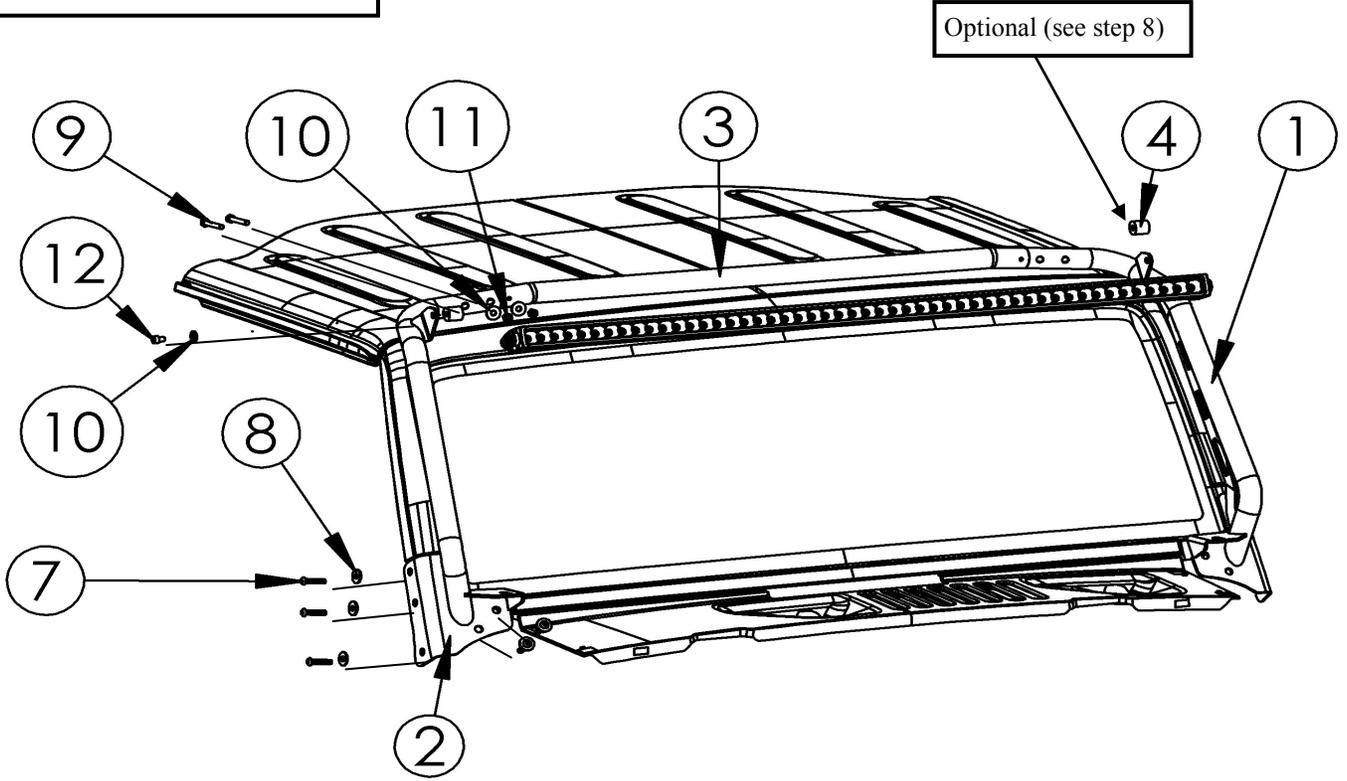
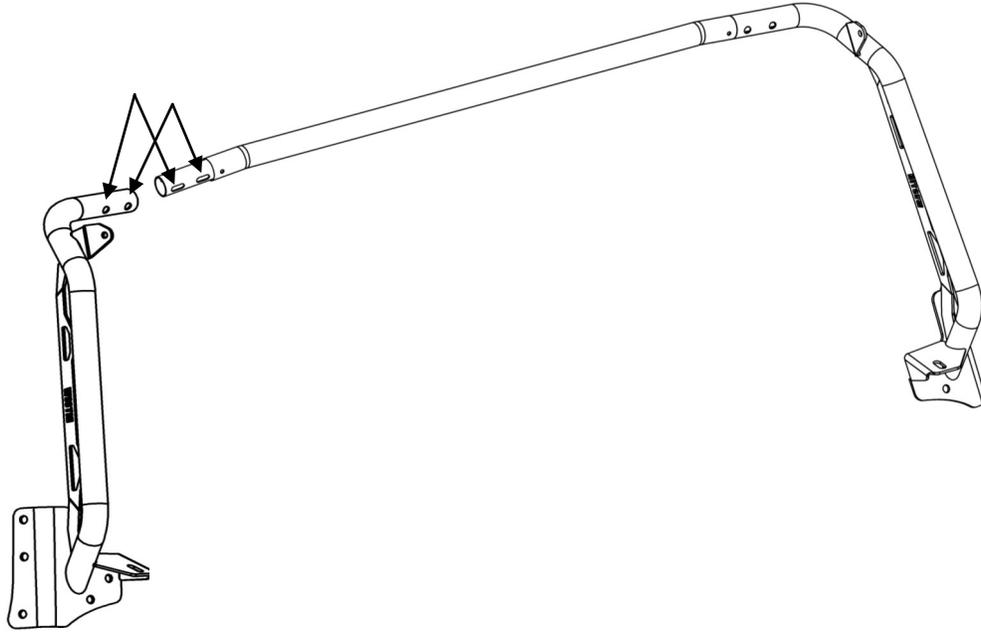

Fig.4
Fig. 7
4. Align the five holes of the hoop assembly base with the corresponding holes on the A-pillar. Loosely attach the hoop assembly using (5) M8-1.25X40 Hex socket button head screws and (5) M8 Bellville washers (**FIG 4**). Do not fully tighten at this time.
5. **NOTE: This step, as well as step 8, requires an assistant.** Carefully lift up the hoop center bar and position it over the windshield, making sure to align the two holes on the center hoop end with those of the hoop assembly. Refer to **Figure 7**. **NOTE: Placing the threaded ends of the screws toward the front of the vehicle will aid in future top removal.** Secure the hoop center bar to the driver hoop assembly using (2) M8-1.25x55 hex socket button head screws, (2) M8 split lock washers, and (2) M8-1.25 hex nuts (**FIG 4**).